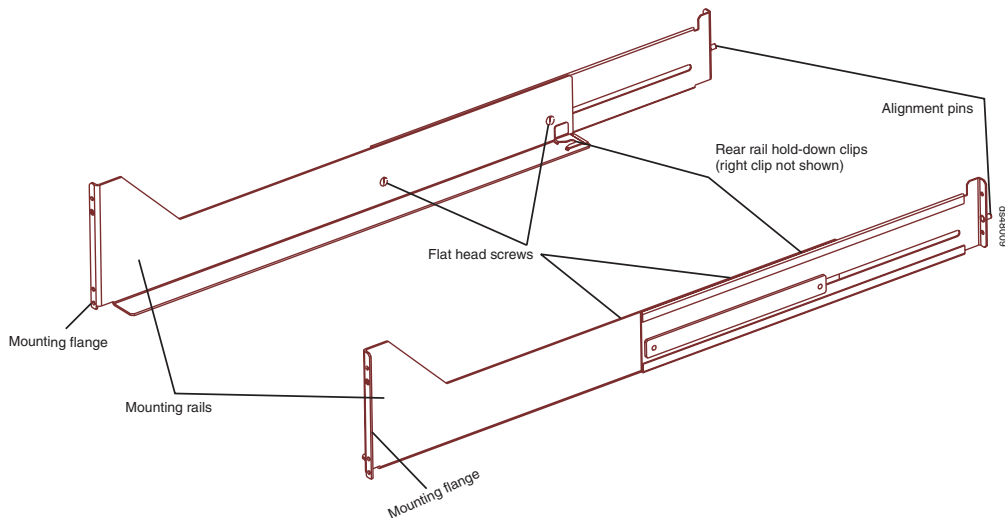

Figure 14. DS4800 support rail assembly
Figure 14 on page 36 shows the support rail assembly for the DS4800.
**Note:** Refer to Figure 14 while performing these steps.
6. Starting with the left rail, use a medium flat-blade screwdriver to loosen the two flat-head rail adjustment screws. See Figure 14 on page 36.
**Attention:** When you slide the storage subsystem into the cabinet, verify that the back of the DS4800 Storage Subsystem is secured by the hold-down clips located at the back of each rail. With the M5 rail screws loosely threaded, you can make minor adjustments to the rails to ensure that the subsystem latches in the hold-down clips. The hold-down clips are shown in Figure 14 on page 36.